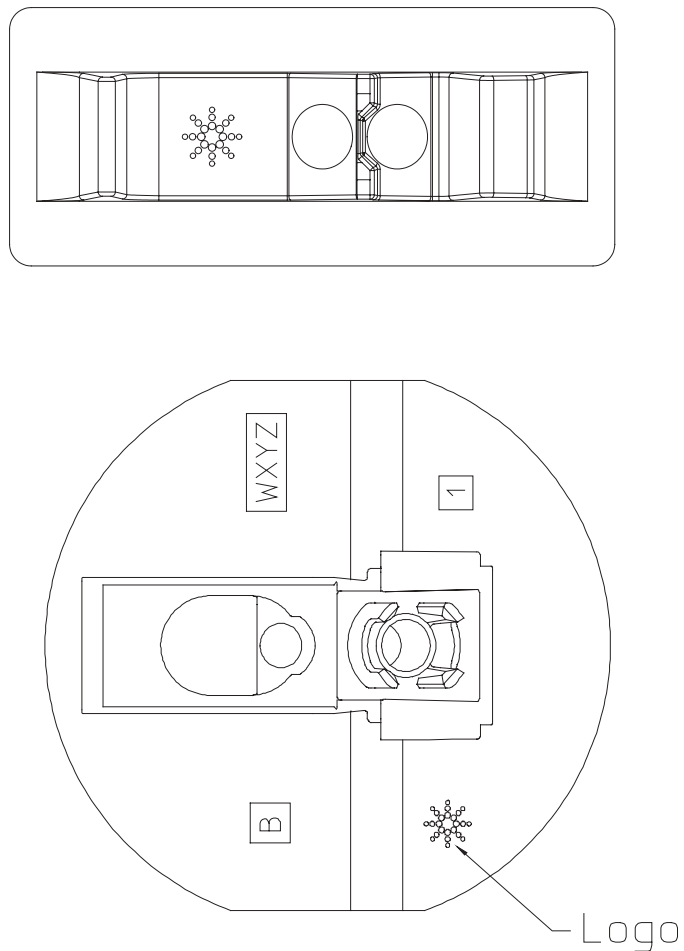

Figure 36. Agilent's logo locations
3. See IR reflow profile (Figure 36)